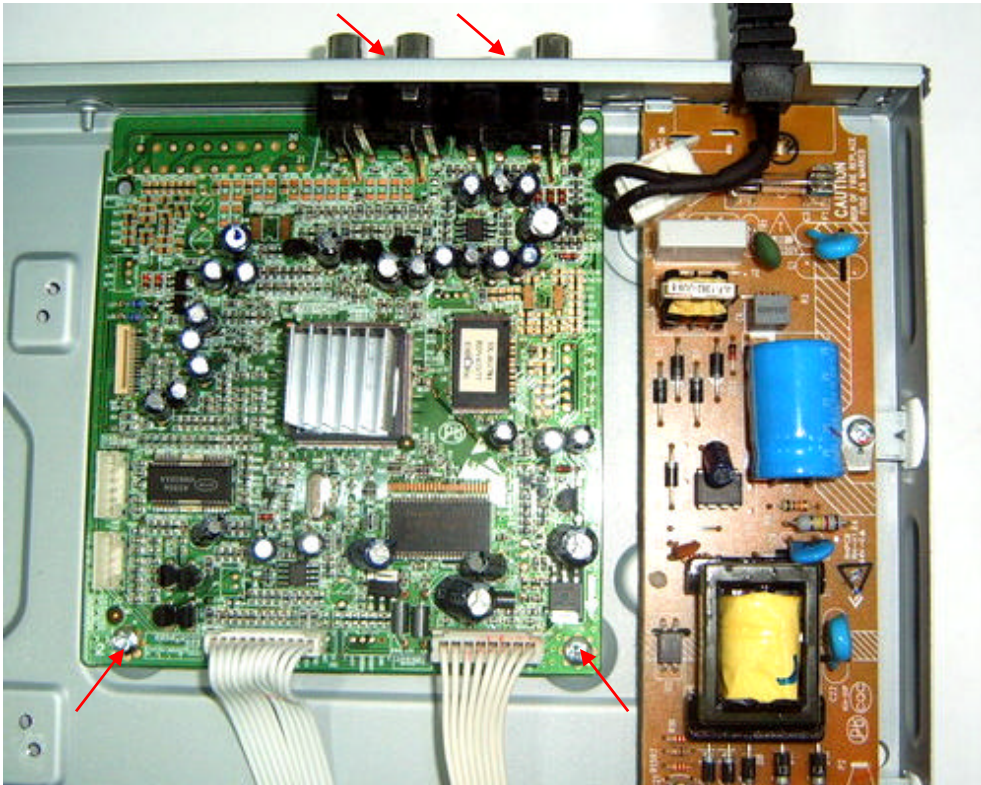

Figure 7
Step5:Dismantling Main Board, first disconnect the 2 connectors, and then remove the 4 screws. (Figure 7)